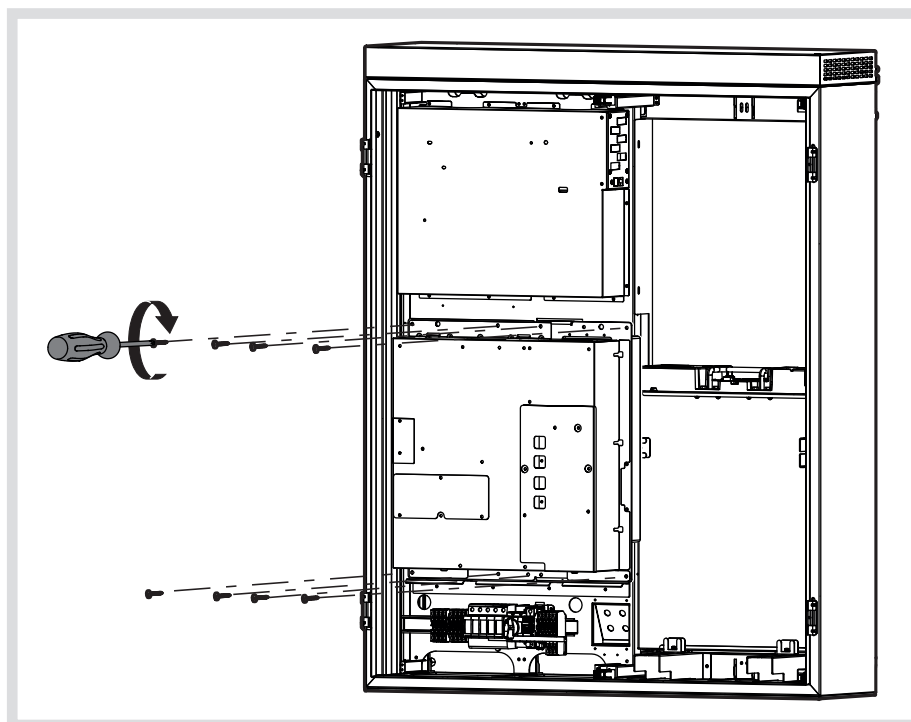

Figure 19: Fix the inverter with screws
- Lift the inverter up, adjust it to the side and fix it with the 8 Torx 25 fastening screws provided (Figure 19).